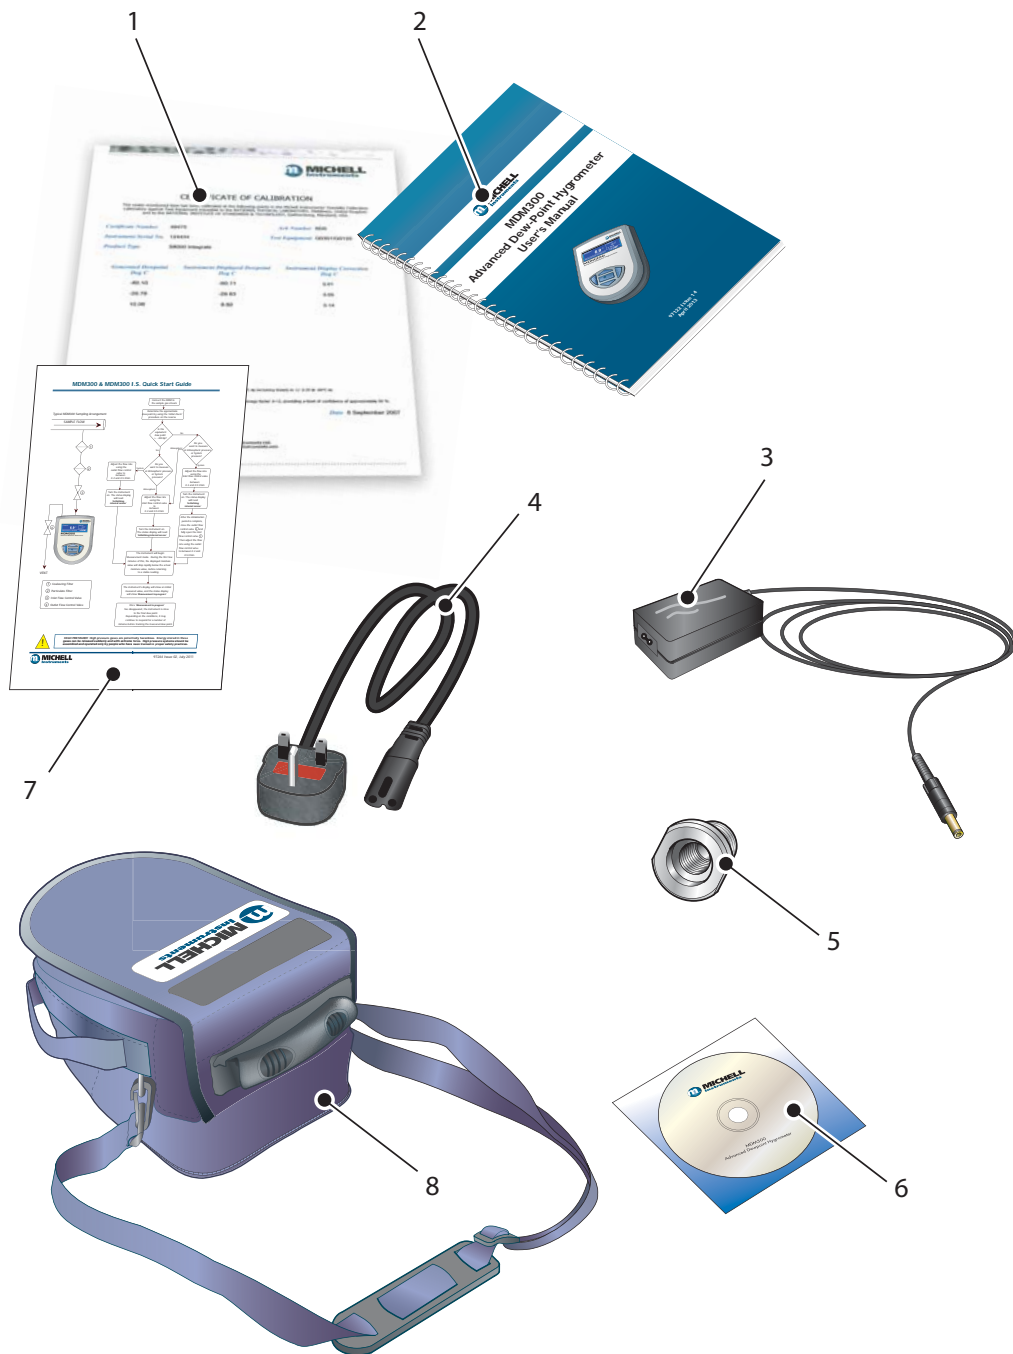

Figure 6 Accessories
The accessories for the MDM300 are shown in *Figure 6*. Items 1 to 7 are supplied as standard and item 8 is optional. Please check that all the standard components are present after unpacking. Report any shortages immediately.